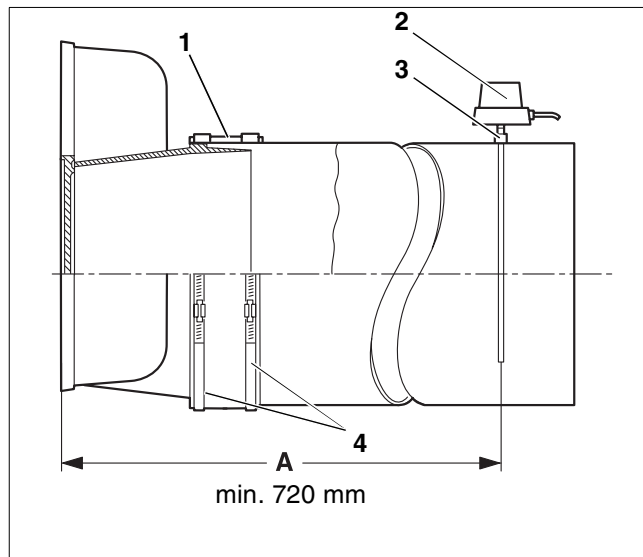

Fig. 33 Assembly – Fitting flue pipe
The use of a sealed sleeve (Fig. 33, ref. 1) to make the connection to the flue pipe is recommended.
- Fit the worm-drive clips (Fig. 33, ref. 4) around the connecting sleeve. One of the clips should tighten onto the flue-gas socket and one onto the flue pipe.
- Weld the pocket (Fig. 33, ref. 3) for the sensor into the flue pipe at a distance from the flue-gas socket of 2 x diameter of the flue pipe (A) – not less than 720 mm.
- Fit the flue-gas temperature sensor (Fig. 33, ref. 2) as detailed in the separate installation instructions.